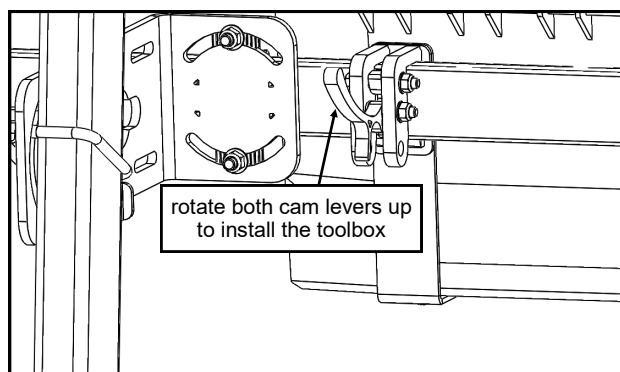

Fig. 2 (cam lever in the open position)
2. To install the toolbox, rotate both cam levers UP, then place onto the Tool Bar. See fig. 2.